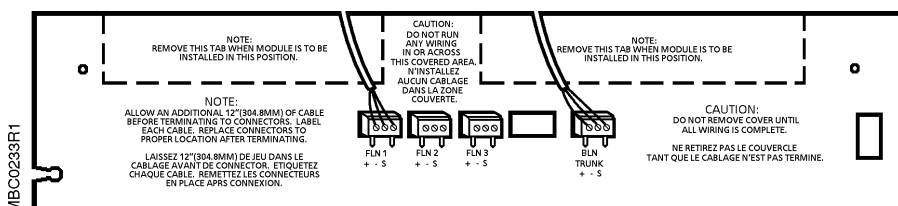

Figure 1. Temporary Cover with Pre-wired ALN and FLN Connectors Attached.
2. Remove the temporary cover (card with attached pre-wired ALN or FLN connectors) that is wrapped around the mounting rails, M-Bus rails, and C-Bus (See Figure 1). Do not remove the connectors at this time.